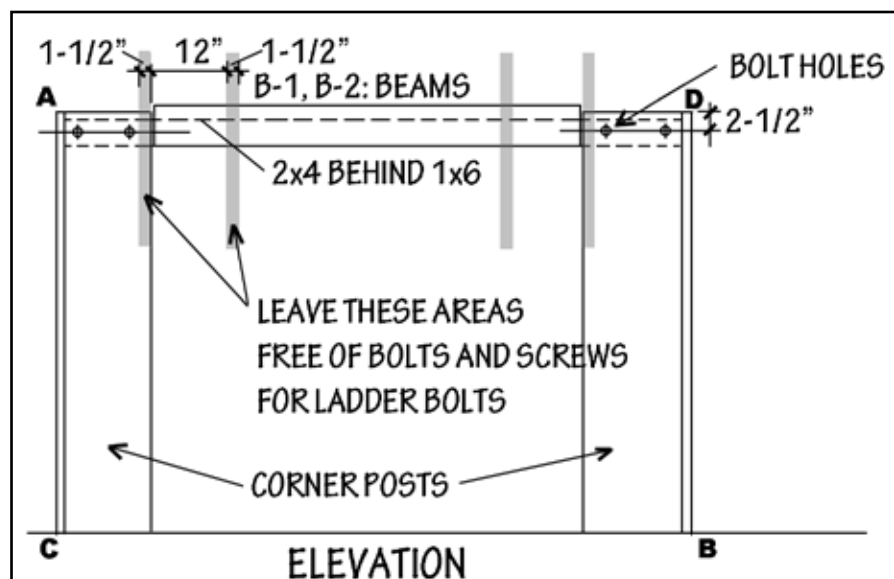
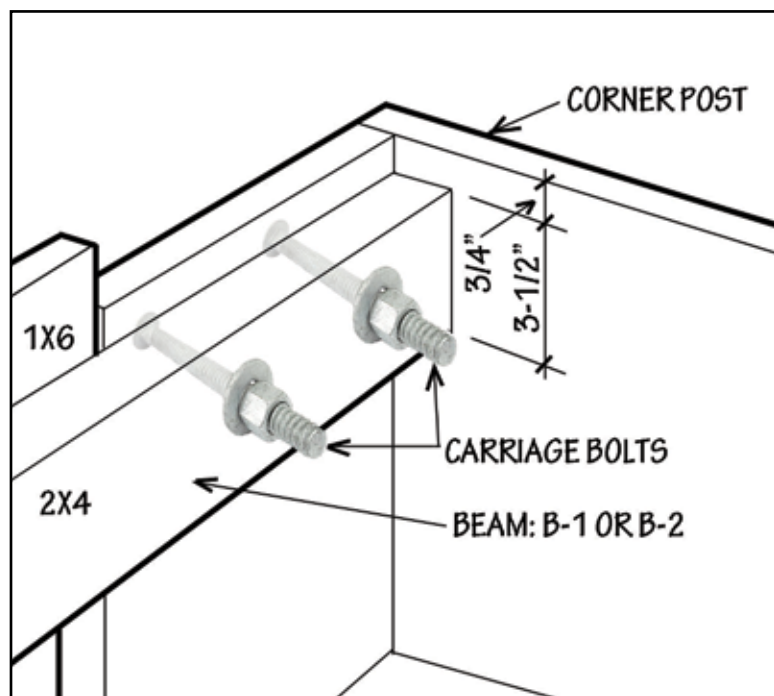

Figure 2. Bolted beams
Figure 3. Bolted connection of beam to corner post
4. Bolt the front and back beams (see page 5 and Figure 2) to the corner posts. The diagram at the bottom of page 4
diagonal distances from A to B and from C to D (shown in Figure 2) must be equal. Drill 3/8" bolt holes through the beams and corner posts in the locations shown in Figure 2. This hole size is slightly larger than the carriage bolt shaft diameter of 5/16". Insert the carriage bolts, place a washer on the side with the nut, and then tighten the nuts. The 1x6 part of the beams should align with the surface of the corner posts (see Figure 3).